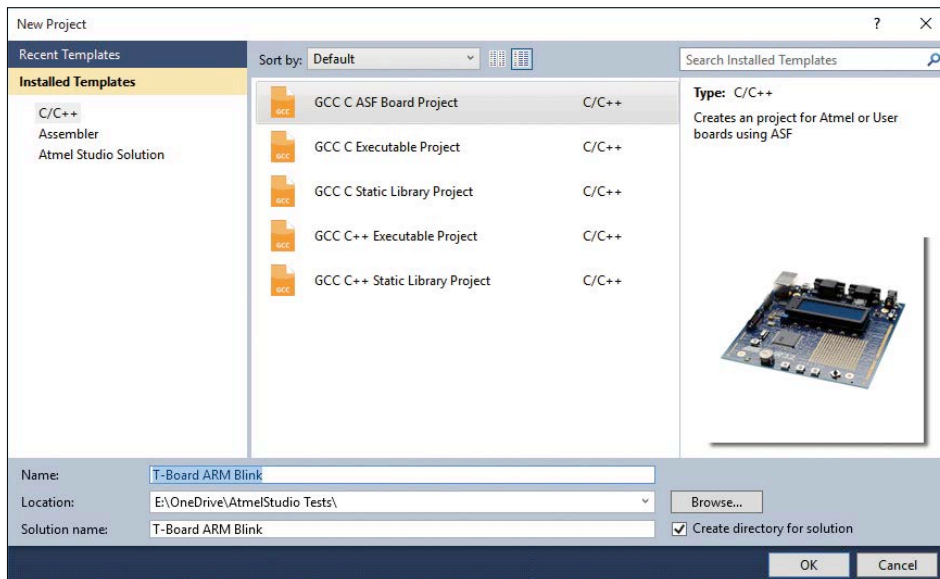

Figure 4. Initial dealings with the GCC ASF Board Project.
1. Open Atmel Studio, and create a new project — choose the *GCC ASF Board Project*, name it and choose where to save it (**Figure 4**).